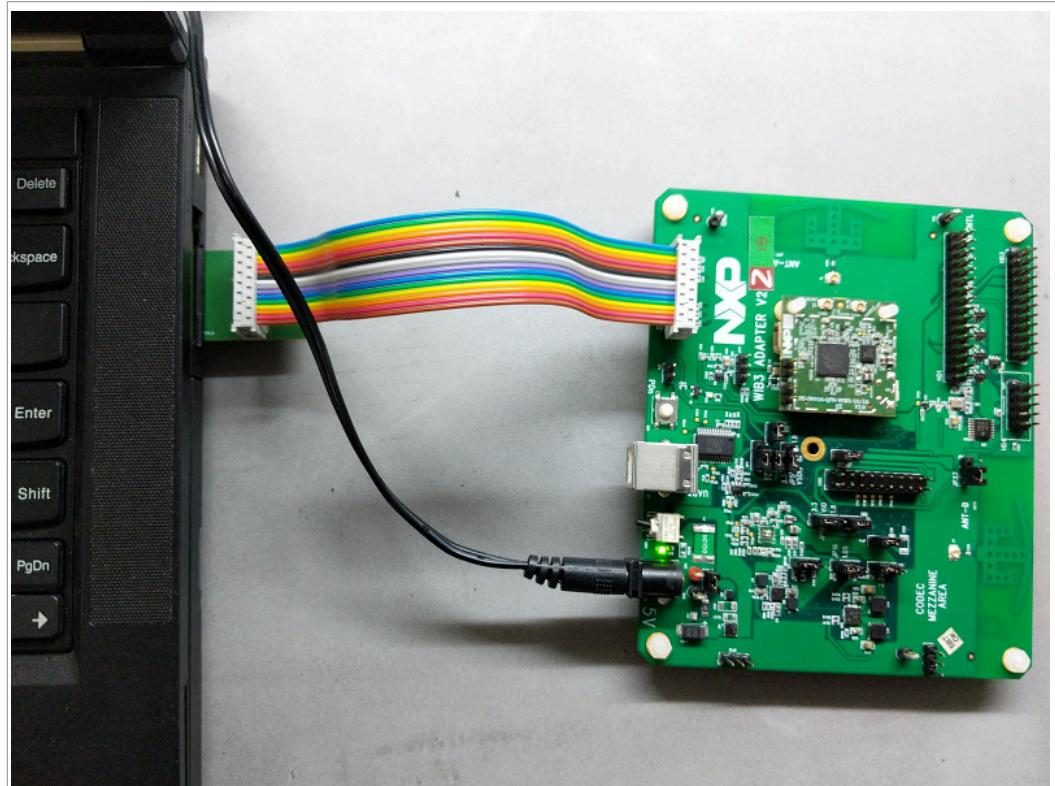

Figure 11. SDIO connection to host
2. Insert the SDIO adapter into the host system, as shown in Figure 11.
Figure 11 shows the SDIO ribbon cable connected to the host.